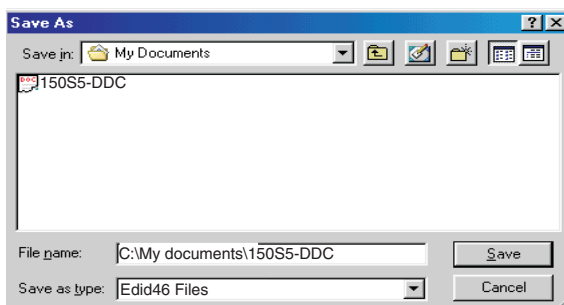

Fig. 24
1. Click  (Save) icon (or click "file"-> "save as") from the tool bar And give a file name as shown in Fig. 24. The file type is EDID46 file (*.ddc) which can be open in WordPad. By using WordPad, the texts of DDC data & table (128 bytes, hex code) can be modified. If DDC TEXTS & HEX Table are completely correct, it can be saved as .ddc file to re-load it into DDC IC for DDC Data application.